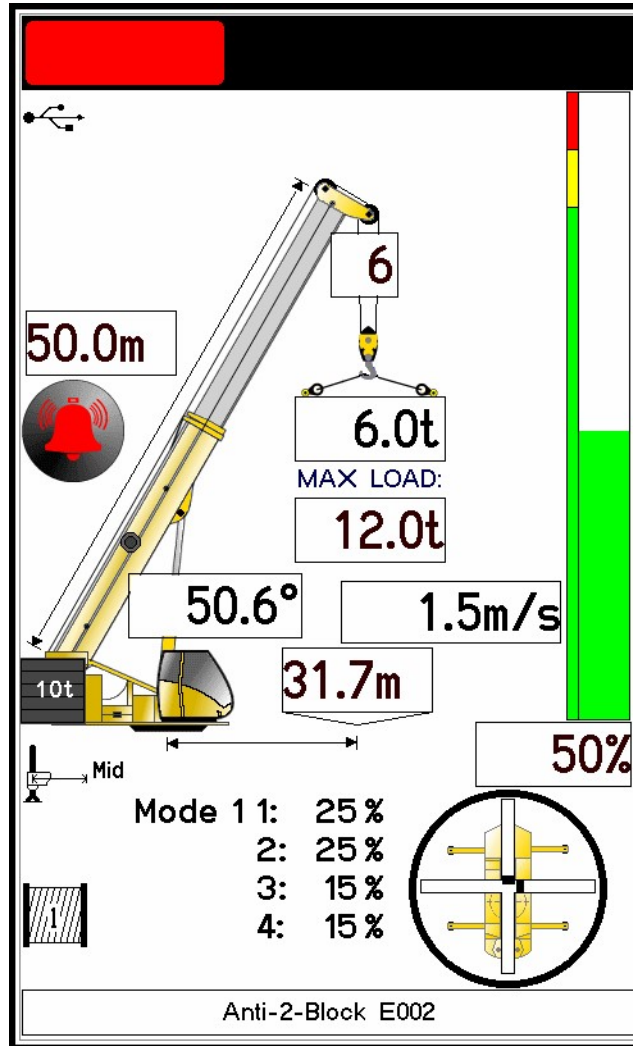

Figure 16
ERROR MESSAGES - FIGURE 16 AND TABLE #1
7. **User Limit Setup** – Press the screen in the bottom left hand corner to access the User Limit Setup screen (Figure 16). Highlight the required limit to be set by pressing on the description, press the Select button to access the keypad and type in the limit that is required. Once all the limits have been set press the Back button to return to the working screen. To disable the limit, highlight the limit by pressing on the description and press the **Disable Selected** button this will then put Disabled next to the description and the limit will now be disabled. To disable all limits, press the **Disable All** button.